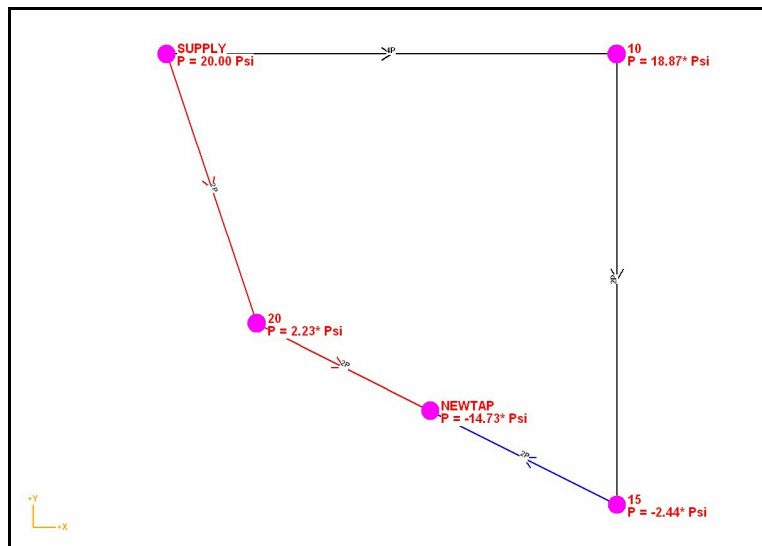

Figure 5
- Click the *Apply Range Colors* command button. The colors of the displayed pipes will be updated to reflect the range color values similar to those shown in Figure 5.